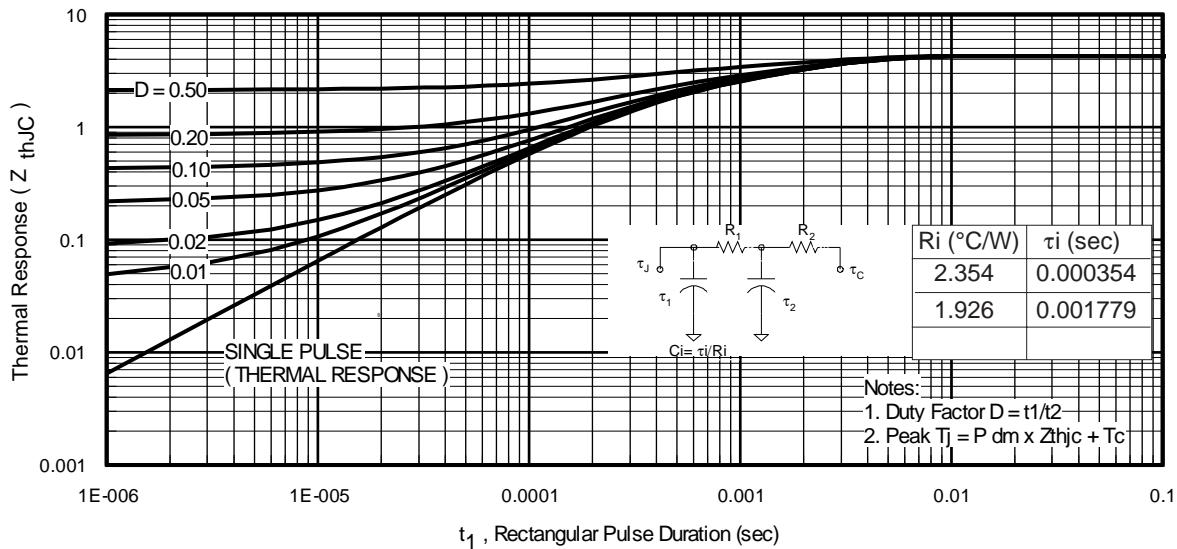
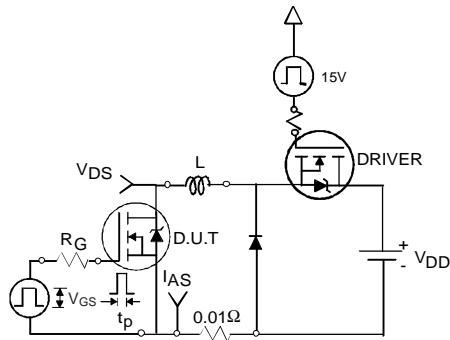

Fig 11. Maximum Effective Transient Thermal Impedance, Junction-to-Case
Fig 12a. Unclamped Inductive Test Circuit
3. Equation below based on circuit and waveforms shown in Figures 12a, 12b.
$Z_{thJC}(D, t_{av})$ = Transient thermal resistance, see figure 11)
- ① Repetitive rating; pulse width limited by max. junction temperature. (See fig. 11).
- ② Limited by T_{Jmax} , starting $T_J = 25^\circ\text{C}$, $L = 0.54\text{mH}$ $R_G = 25\Omega$, $I_{AS} = 9.6\text{A}$, $V_{GS} = 10\text{V}$. Part not recommended for use above this value.
- ③ Pulse width $\leq 1.0\text{ms}$; duty cycle $\leq 2\%$.
- ④ C_{oss} eff. is a fixed capacitance that gives the same charging time as C_{oss} while V_{DS} is rising from 0 to 80% V_{DSS} .
- ⑤ Limited by T_{Jmax} , see Fig.12a, 12b, 15, 16 for typical repetitive avalanche performance.
- ⑥ This value determined from sample failure population. 100% tested to this value in production.
- ⑦ When mounted on 1" square PCB (FR-4 or G-10 Material). For recommended footprint and soldering techniques refer to application note #AN-994.
- ⑧ R_d is measured at